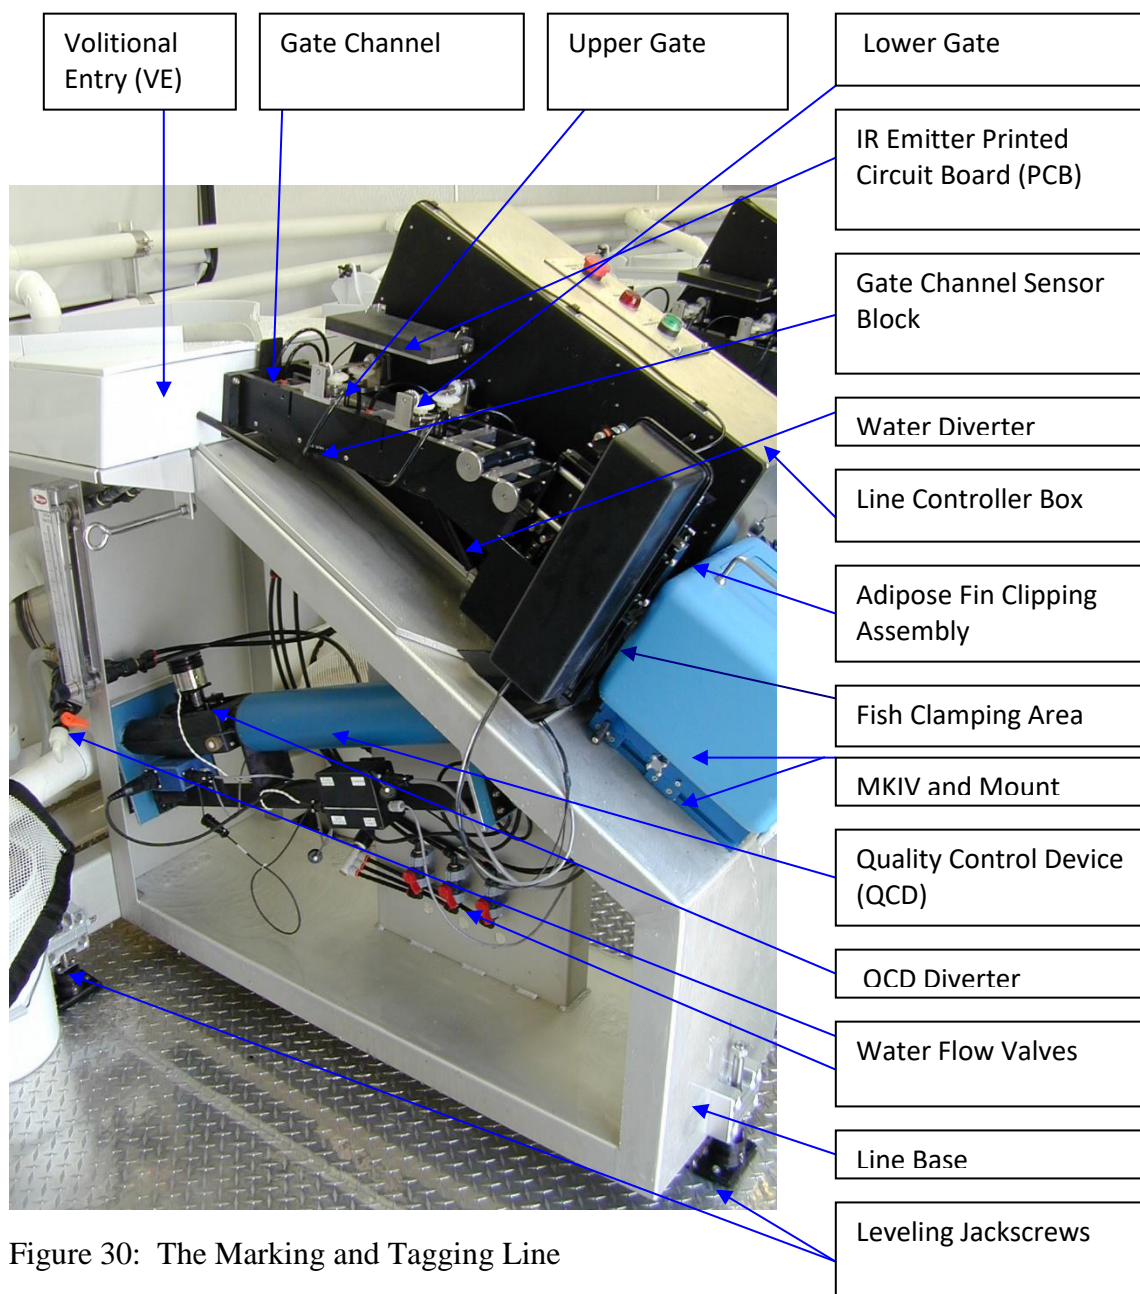

Figure 30: The Marking and Tagging Line
The gate channel mechanism, mounted to the line controller box and VE shown in Figure 30 controls the fish between the VE and the processing area. The internal walls and top of the gate channel are manually adjusted for different sized fish. The channel height and width adjustments are made by turning the appropriate adjustment knob on the side of the channel.
As fish travel through the gate channel their location is tracked using sensors. The sensor system on the gate channel consists of two parts; the infrared (IR) emitter PCB and the sensor block. Mounted just over the gate channel is the IR emitter PCB (Figure 30) which emits light through the clear gate channel cover and interfaces the sensors mounted below the channel. Once the fish breaks the light connection between the emitter and the sensor, the software then knows the location of the fish within the gate channel. There is a sensor